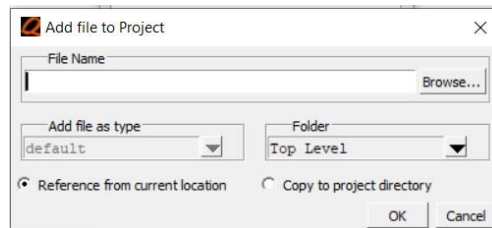
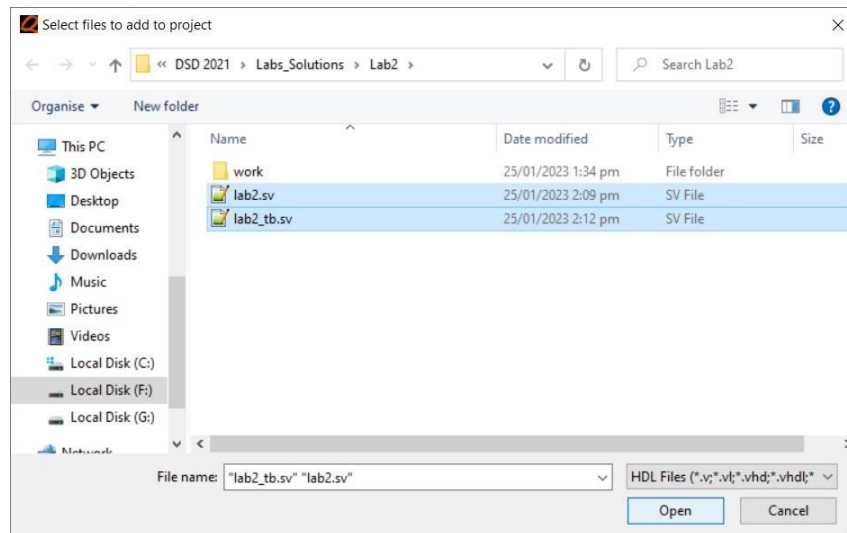

Fig. 2.5: Add File to the Project window.
Fig. 2.6: Adding RTL and test bench files to project.
4. Next click on *Browse* (Fig. 2.5) and select the System Verilog RTL and test bench code file (Fig. 2.6), click *Open* and then click *OK*.